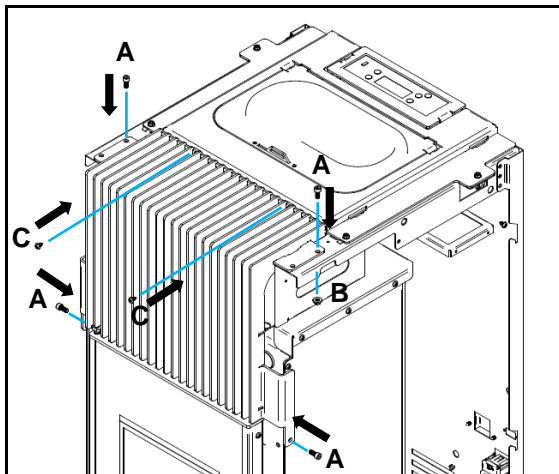

Figure 37 - Front grille tightening
c) In the upper part of the grate, fasten with two screws **C** (DIN 7981 4,2x9,5) directly to the cover previously placed, then fix with two screws **A** (DIN 912 M5x12) and use nuts **B** (Nuts M5 DIN 6923), finally, with two screws **A** (DIN 912 M5x12) attached to the lower part directly on the machine, as shown in Figure 37.